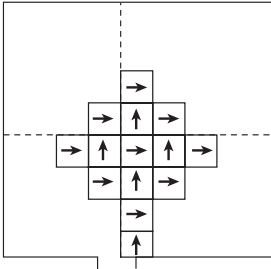

Fig. 1 – Block/Tile
3. When installing the PERSPECTIVES Tile block/tile fashion, quarter-turn every other tile during installation. See Figure 1.